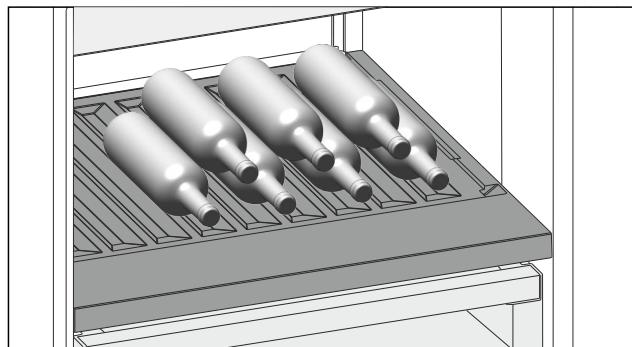

Fig. 113
- ▶ Insert the bottles facing backwards towards the rear wall. (see Fig. 113)